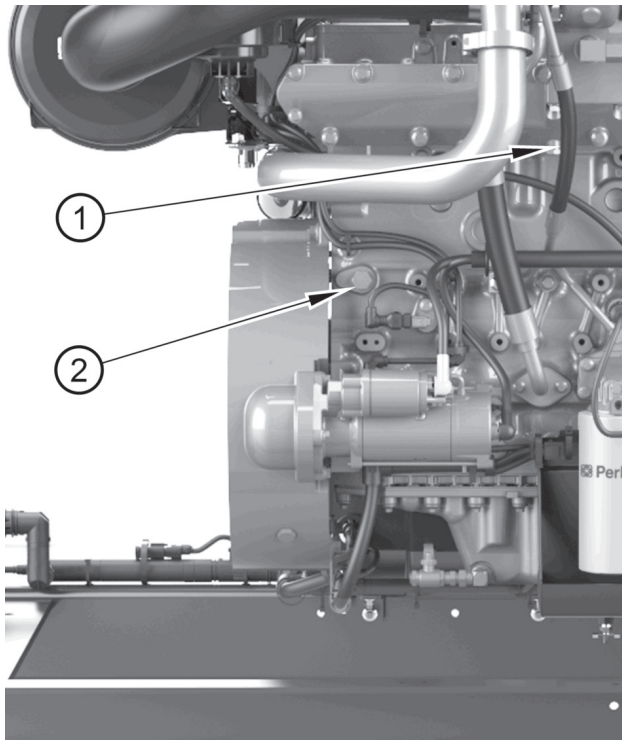

Figure 7
3. Remove the drain plug (figure 7 item 1) from the exhaust manifold and the sampling plug located on the left side of the cylinder block.